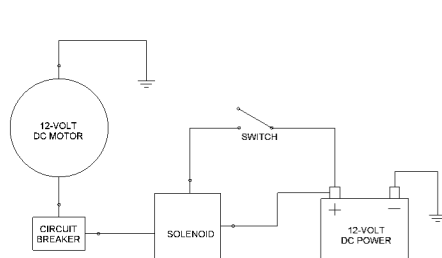

Fig 3.0 "E/ED" Motor Diagram Single Pole Single Throw
- 2.) Ensure power supply and motor voltage ratings are compatible. Refer to figures 3.0, 4.0, and 5.0 for wiring diagrams.